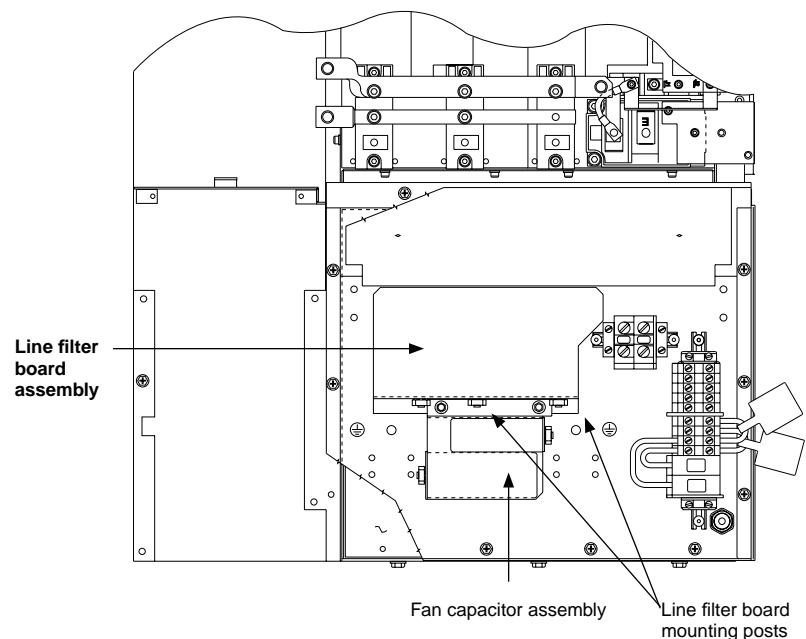
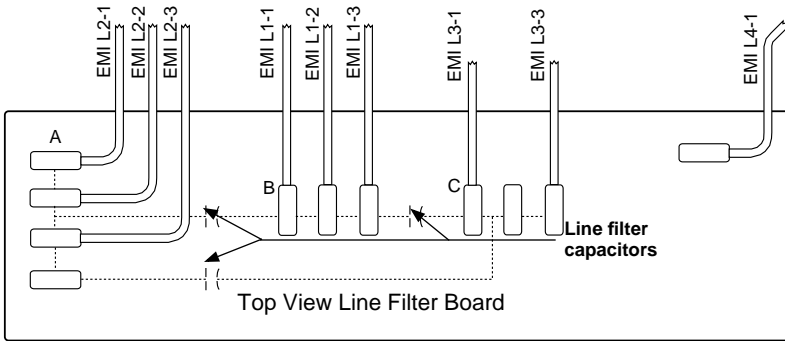

Figure 4.1.22: Line Filter Board and Fan Capacitor Assembly Locations
Figure 4.1.23: Line Filter Board Connections
- Line filter boards. Refer to Figure 4.1.22 on page 4.1.54 and Figure 4.1.23 on page 4.1.55 for location.
2. Using a drive socket, loosen and remove the two mounting nuts and lock washers located at the bottom of the line filter board (see Figure 4.1.22 on page 4.1.54). The fan capacitor assembly is also secured with the same mounting nuts.
5. Install the line filter board and fan capacitor assembly on the two mounting posts (see Figure 4.1.22).
6. Using needle nose pliers, carefully connect the nine connectors located at the top to the new line filter board (see Figure 4.1.23).
NOTE: Once the wiring has been connected to the filter board, an ohmmeter check should be made from points A to B, B to C, and C to A of Figure 4.1.23. The ohmmeter should initially indicate a low resistance. The resistance should gradually increase over a period of 5-10 seconds as the filter and bus capacitors within the controller charge. Continuous low resistance is an indication of a mis-wiring of the filter board and possible phase-to-phase short circuit on the input wiring of the controller.